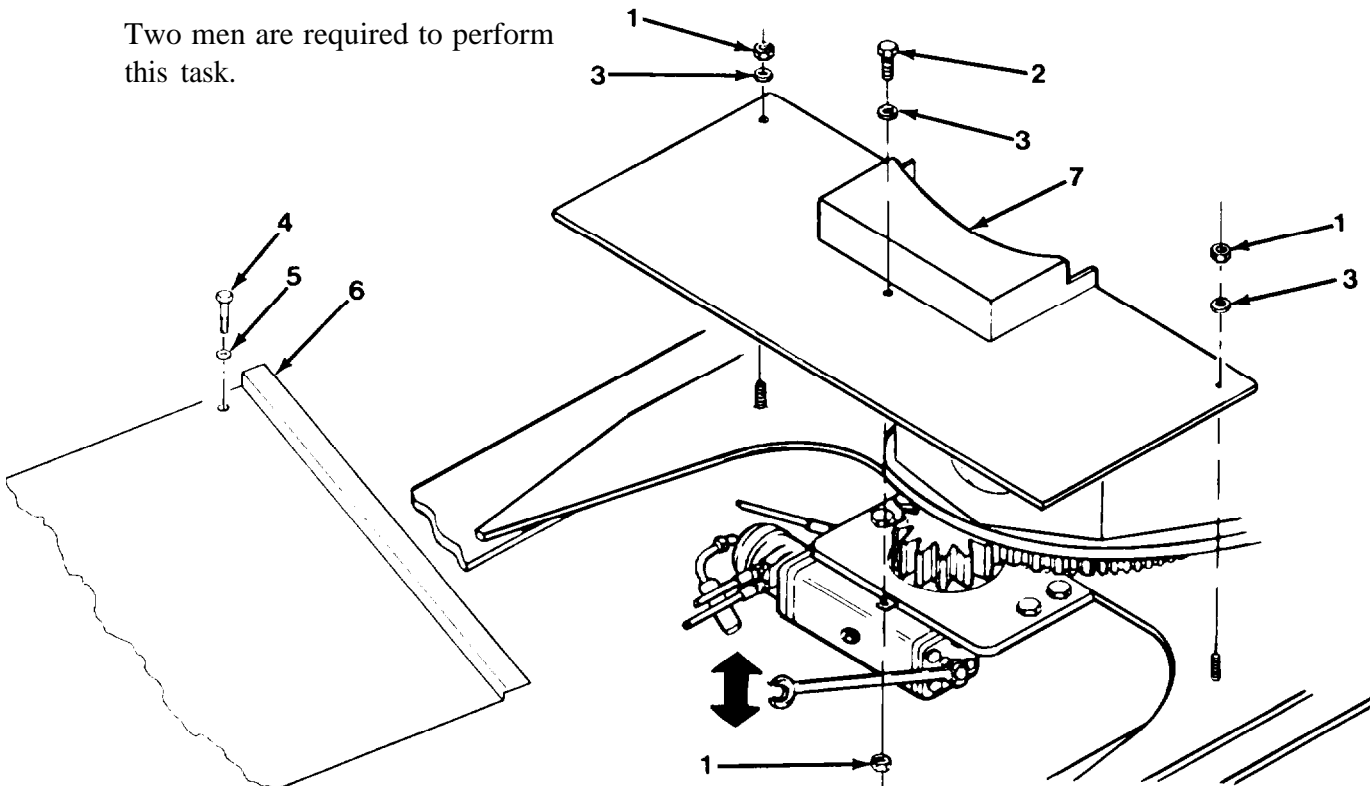

Figure 4-52. *Swing Drive Box*
1. Remove three nuts (1), bolt (2), three washers (3), five bolts (4), washers (5), deck plate (6), and pinion cover (7, Figure 4-52).